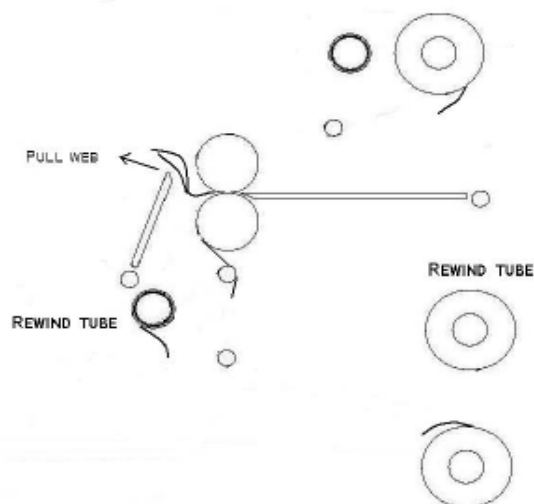

Fig. 30
5. Carefully grab hold of the web (top and bottom film), from the front operating position and pull towards you (Figure 30).